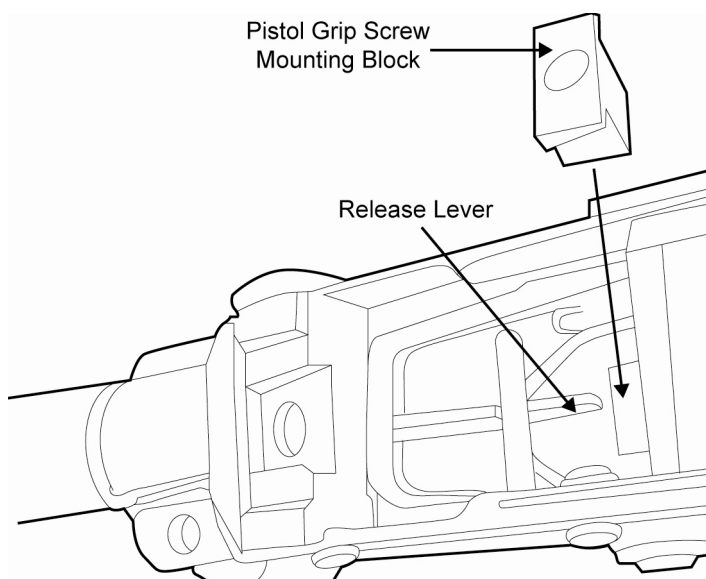

Figure 56. Installing the Pistol Grip Screw Mounting Block.
- f. Install the pistol grip screw mounting block into the receiver through the hole in the mounting plate with the thick edge to the rear. Refer to Figure 56. Push the release lever forward until the release lever retaining pin is seated in the notch in the release lever.